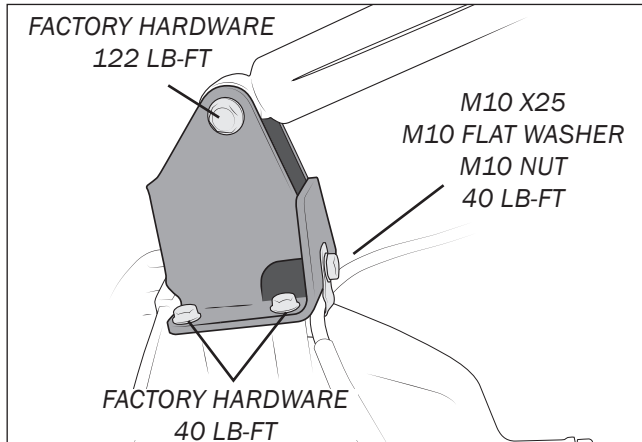

Figure 12
3. Install AEV Power Hop bracket with factory hardware (if equipped). Attach the parking brake cable to the power hop bracket with supplied hardware and torque (fig. 12).